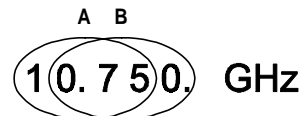

Figure10. Local Oscillator frequency low and high-resolution display
Local Oscillator frequency: (see Figure 10) For example; if a current Local Oscillator frequency is 10.750 GHz, changing to Alt-2 Mode (ALT LED is on) and then pressing 2 displays the four most significant digits on the front panel (i.e., 10.75). At low resolution (A), pressing the up \uparrow or down \downarrow arrow button advances the frequency up or down in 10 MHz steps (i.e., 10.76, 10.77, and so on). Pressing and holding down the up \uparrow or down \downarrow arrow button will increase the step size further.
Crossover frequency: Because the Crossover and LO frequency ranges are similar, refer to the above example for changing the Crossover frequency using the high and low resolution front panel display (see Figure 10).